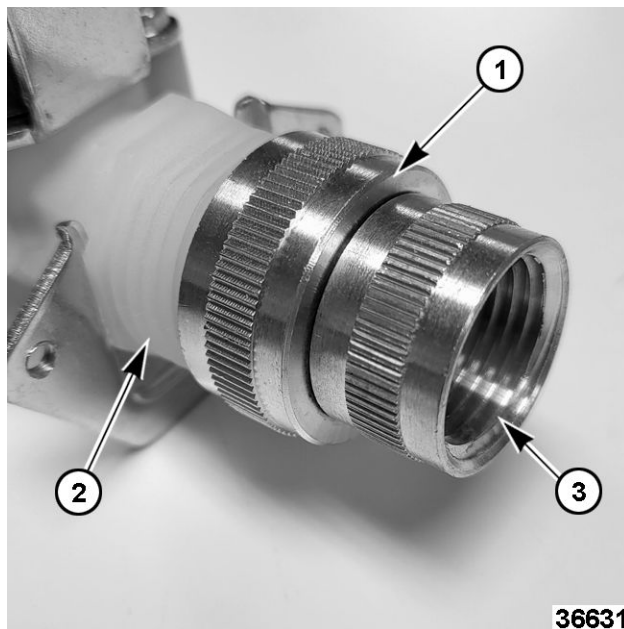

Fig. 82
1. Hand-tighten GHT fitting to water solenoid valve (2, Fig. 82).
**NOTE:** No sealant or Teflon tape is required on the valve end of fitting (1, Fig. 82) as it has a rubber washer preinstalled.
2. Apply NSF thread sealant or Teflon tape to the male NPT fitting (not shown) that attaches to the NPT side (3, Fig. 82) of the GHT fitting.